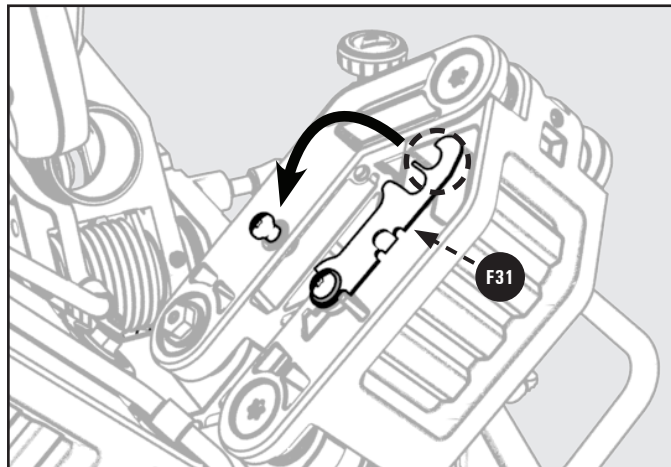

Figure 31
See Figure 31 and 32.
1. To use this saw as a traditional, non-sliding, miter saw: slide the saw head into the fully retracted position and engage the slide lock (F31), baseboard notch. See Figure 31.
2. Loosen the miter lock knob (F25), use your thumb to push in the miter detent lock button (F28), and set the miter arm angle to 0°. Use the miter scale (A) and indicator (B) to locate the 0° miter position.